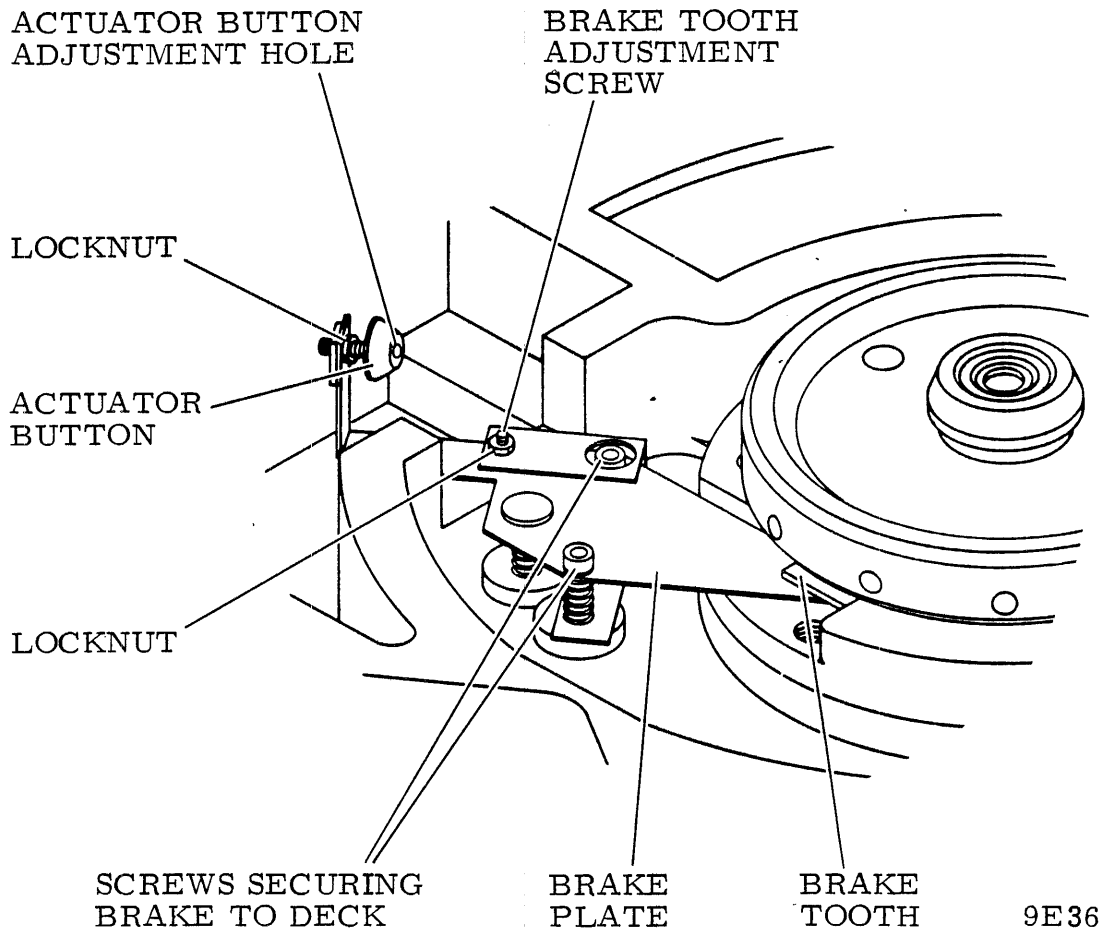

Figure 6-23. Parking Brake Replacement/Adjustment
The parking brake is located on the deck near the spindle (refer to figure 6-23). It is necessary to remove only the brake cover plate to access the parking brake for removal and replacement. Adjustment is covered in the Parking Brake Adjustment procedure.
4. Remove hardware securing parking brake assembly to deck (refer to figure 6-23) then remove assembly and set aside.
The Parking Brake has two adjustments (refer to figure 6-23). These are the actuator button to pack clearance and the brake tooth to bottom of spindle clearance.